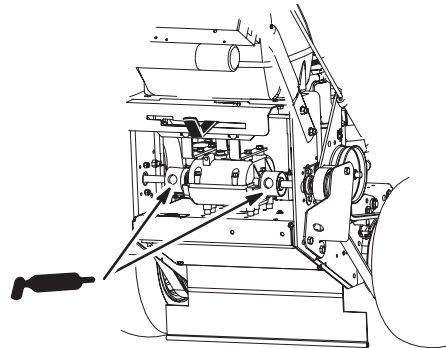

Figure 36
1. Lubricate the transmission couplers located in the back of the machine (Fig. 36).